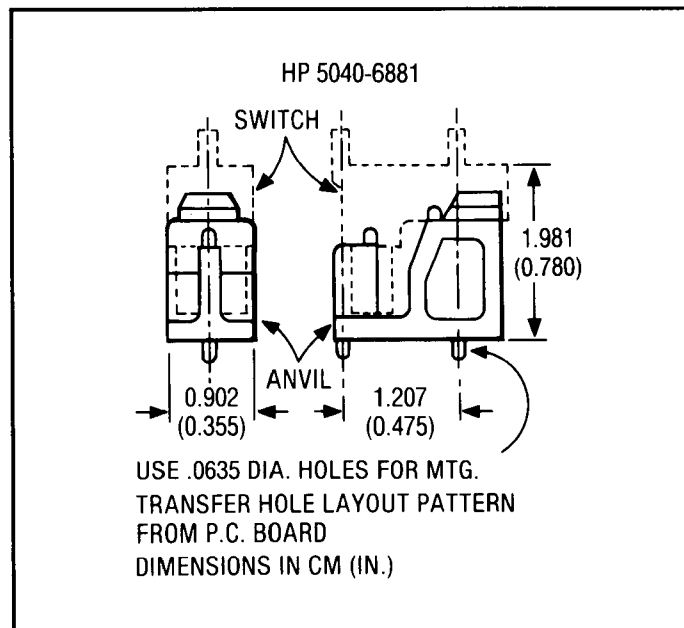

Figure 8-2. Pushbutton Switch Support Anvil
4. For reliable operation, the switch must be mounted tightly against the printed circuit board. To facilitate the heat staking operation, specially molded support anvils (HP 5040-6881) can be ordered. See figure 8-2.